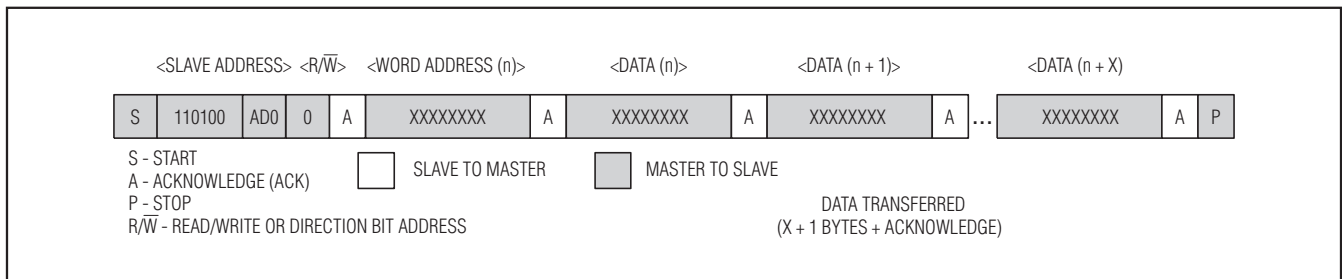

Figure 6. Data Write—Slave Receiver Mode
- 1) Slave receiver mode (DS1372 write mode):** Serial data and clock are received through SDA and SCL. After each byte is received an acknowledge bit is transmitted. START and STOP conditions are recognized as the beginning and end of a serial transfer. Address recognition is performed by hardware after reception of the slave address and direction bit (see Figure 6). The slave address byte is the first byte received after the master generates the START condition. The slave address byte contains the 7-bit DS1372 address, which is 110100 and AD0. Each slave address is followed by the direction bit ( $R/\overline{W}$ ), which is zero for a write. The bit position signified by A is compared to the value on the AD0 input pin. After receiving and decoding the slave address byte, the device outputs an acknowledge on the SDA line. After the device acknowledges the slave address and write bit, the master transmits a register address to the device. This sets the register pointer on the device. After setting the register address, the master then transmits each byte of data with the DS1372 acknowledging each byte received. The master generates a STOP condition to terminate the data write.